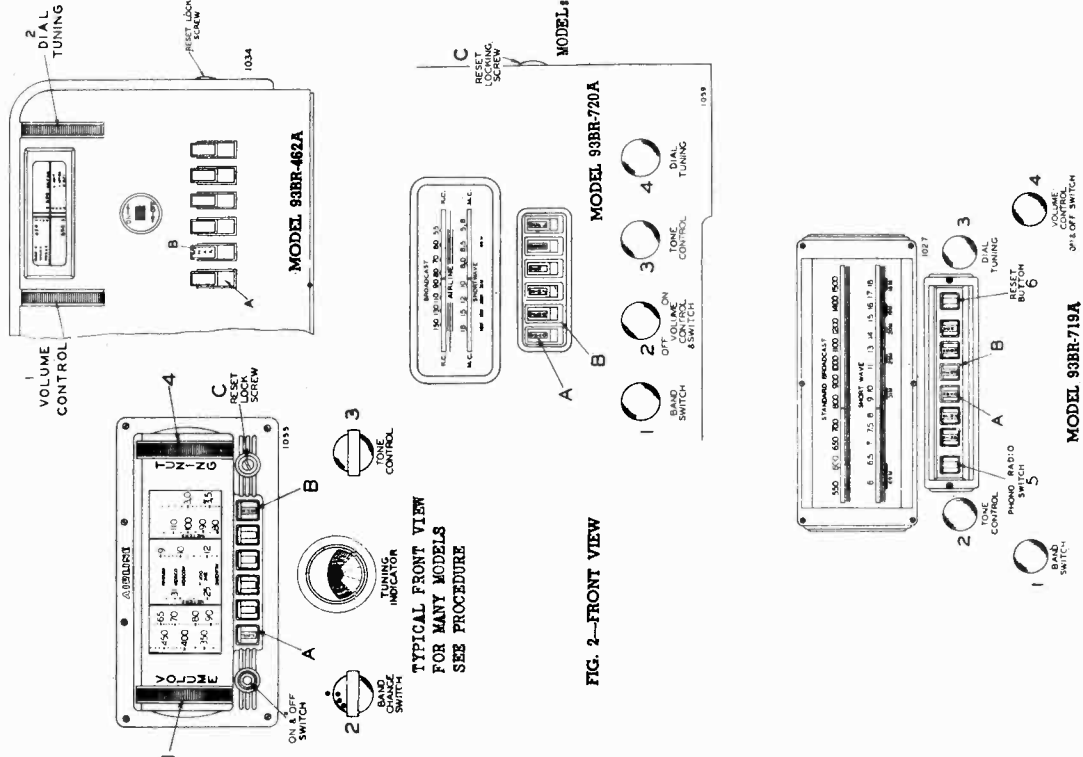

FIG. 2—FRONT VIEW
There are six push buttons by means of which six stations may be selected. (See "A" Fig. 2). Make a list of local stations or stations you tune in regularly; any number up to and including six.
On the front of each automatic push button an opening is provided for inserting the call letter tabs. (See "B" Fig. 2). Insert the call letter tabs in the rectangular openings of each of the automatic push buttons. One of the small celluloid tabs supplied should be inserted into place over each of the station call letter tabs.
1. Remove the snap-in button from the dial escutcheon plate on the front panel of the radio (see "C" Reset Lock Screw, Fig. 2). If the snap-in button will not come out easily using your fingers, pry it off with a screwdriver or a knife, being careful not to mar the finish on the escutcheon plate.